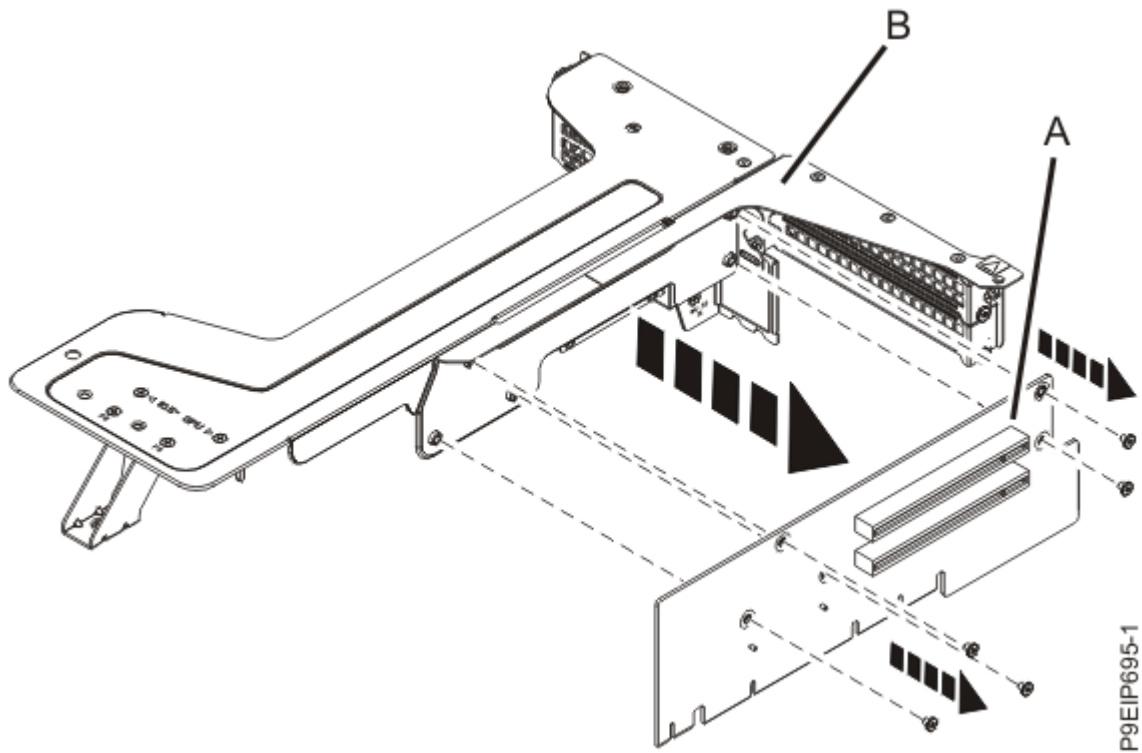

Figure 19. Removing position 1 riser card
Remove the five screws that secure the riser card (A) to the riser support (B) as shown in Figure 19 on page 23.